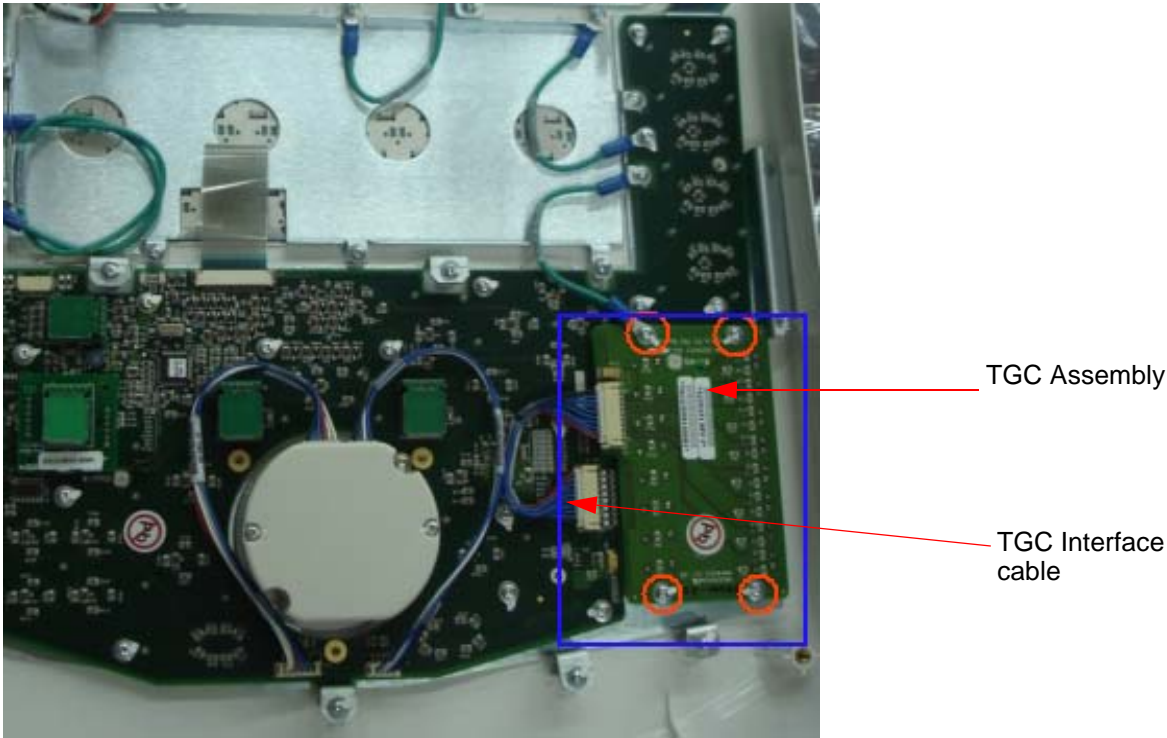

Figure 8-14 TGC PCB
3) Remove TGC assembly by removing the four screws (as marked in Figure 8-14 on page 8-15)